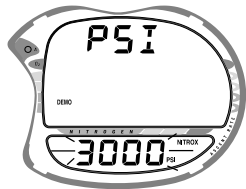

Fig. 79 - Demo Surface Mode
- Press and release the Advance Front) button to accept the setting and advance to **DEMO: PSI** (or **bAr**) with **OFF**, **CYL**, **3000** psi (206.5 bar), or **4000** psi (275.5 bar) flashing (Fig. 79).